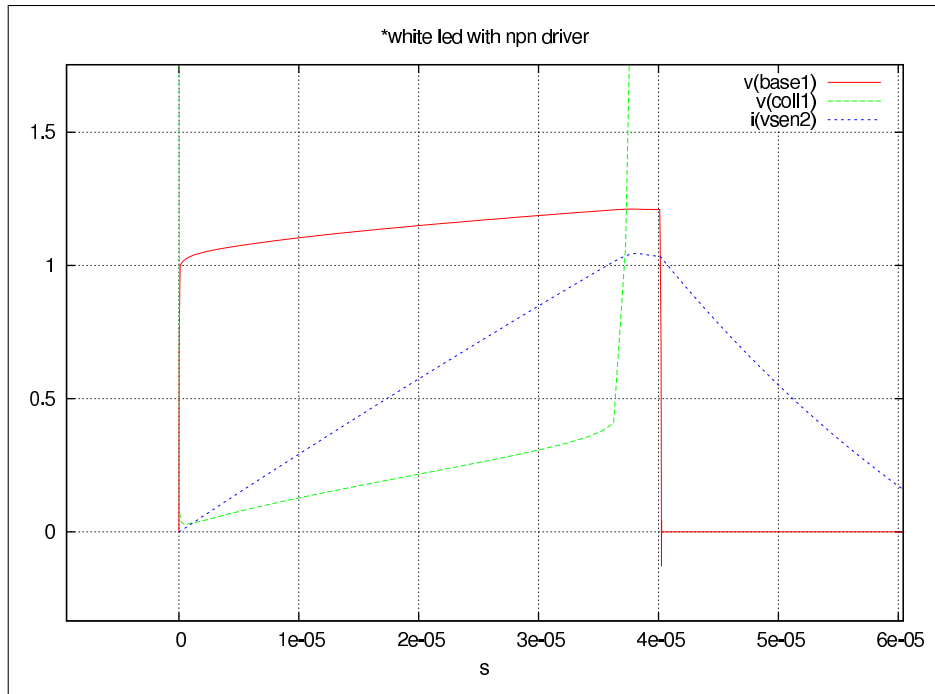

Figure 3: Flasher Circuit with Q1 in Saturation
- Referring to figure 3, we clearly see the saturation of Q1 once V_{pulse} transitions to 3 volts at time zero. Note that the base-emitter voltage on Q1 (V_{base1}) rises to roughly one volt. This tells us that the emitter-base diode is on very *hard*. Also note that when V_{pulse} transitions to 3 volts, Q1's collector voltage, (V_{coll1}) drops to nearly zero volts. With $V_{ce(sat)}$ well less than 0.2 volts, Q1 is clearly deep into the saturation region.